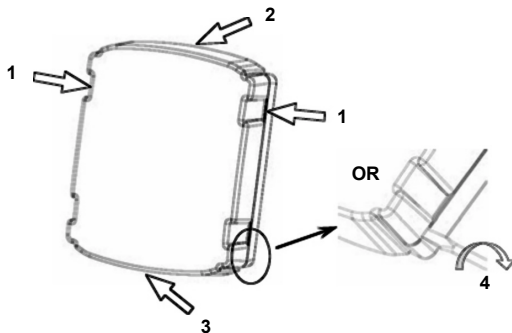

Fig. 4 Attaching or Removing the Cover
- (8) If RS-485 sensors are being tied into a control device, insert a two-position jumper into J6 on the sensor board that is wired farthest from the controller. This enables the RS-485 termination resistor.
- (9) Align the two side tabs of the cover with the base and snap the cover onto the base.
- (10) Verify cover is securely attached to base by pulling on the top and bottom of the cover as shown in Fig. 4.
- To remove the cover, grasp it along the recesses and pull it away from the base (→ Fig. 4).
- **Alternatively**, place a screwdriver into the slots indicated in Fig. 4 and twist.